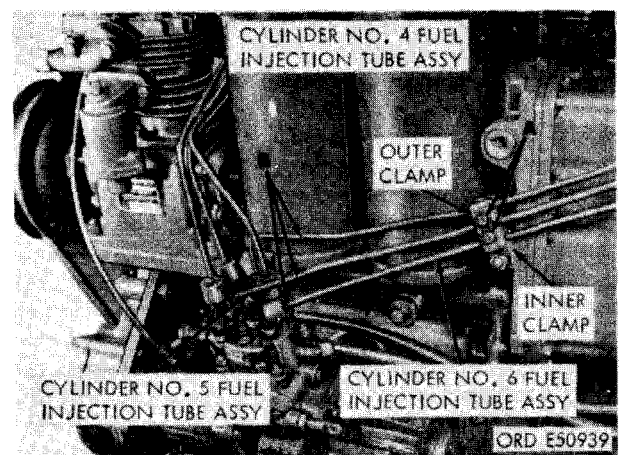

FIGURE 58. DISCONNECTING OR CONNECTING CYLINDER NO. 4, 5, AND 6 FUEL INJECTION TUBES.
- (3) Figure 58. (A) Remove two 1/4- inch self- locking nuts, 1/4- inch flat washers, and 1/4 x 1-3/8 cap screws securing outer clamp to inner clamp. Remove outer clamp. (B) Disconnect cylinder No. 4, 5, and 6 fuel injection tube assemblies from fuel injection pump assembly.